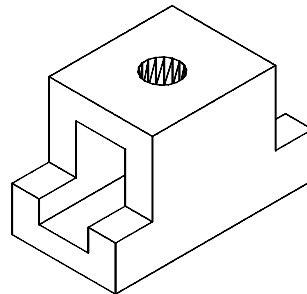

Figure 26-57 Model after subtraction
19. Subtract this cylinder from the existing model, refer to Figure 26-57.